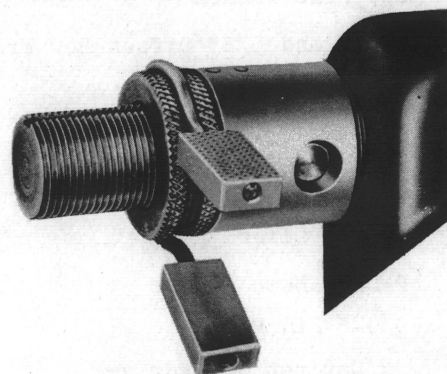

Fig. 3 - Position of No. 590A Oil Closure Cutter After Completion of Cut
Continue this operation until the sleeve of the tool is nearly against the oil closure as shown in Fig. 3, at which time the cut will have been completed. Stop the motor.
3.08 With the cut completed, the clevis pin will be in approximate alignment with the holes in the sleeve, as shown in Fig. 3, and the pin can be readily pushed out with the 3" cabinet screwdriver thereby disconnecting the tool from the friction roll shaft. If the position of the clevis pin is such that it is not accessible, rotate the motor coupling by hand until pin is accessible. In some cases it may be necessary to change the position of the friction nut.